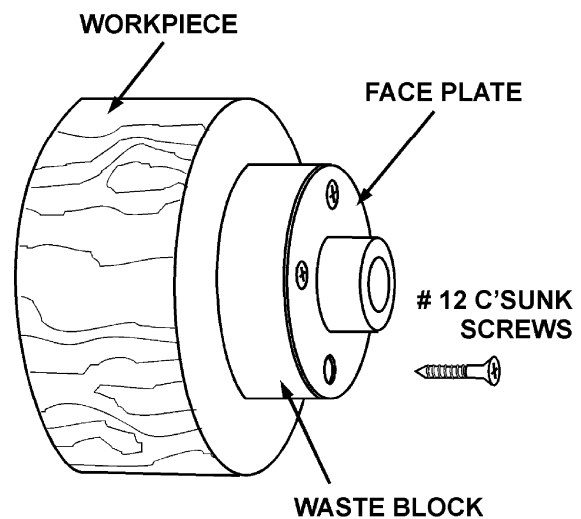

Figure 20
3. Using the faceplate as a template, mark the location of the mounting holes, and drill pilot holes of the appropriate size. If the mounting screws on the faceplate interfere with the workpiece, a waste block can be mounted to the faceplate and then the waste block mounted to the workpiece by gluing or screwing, see Figure 20.